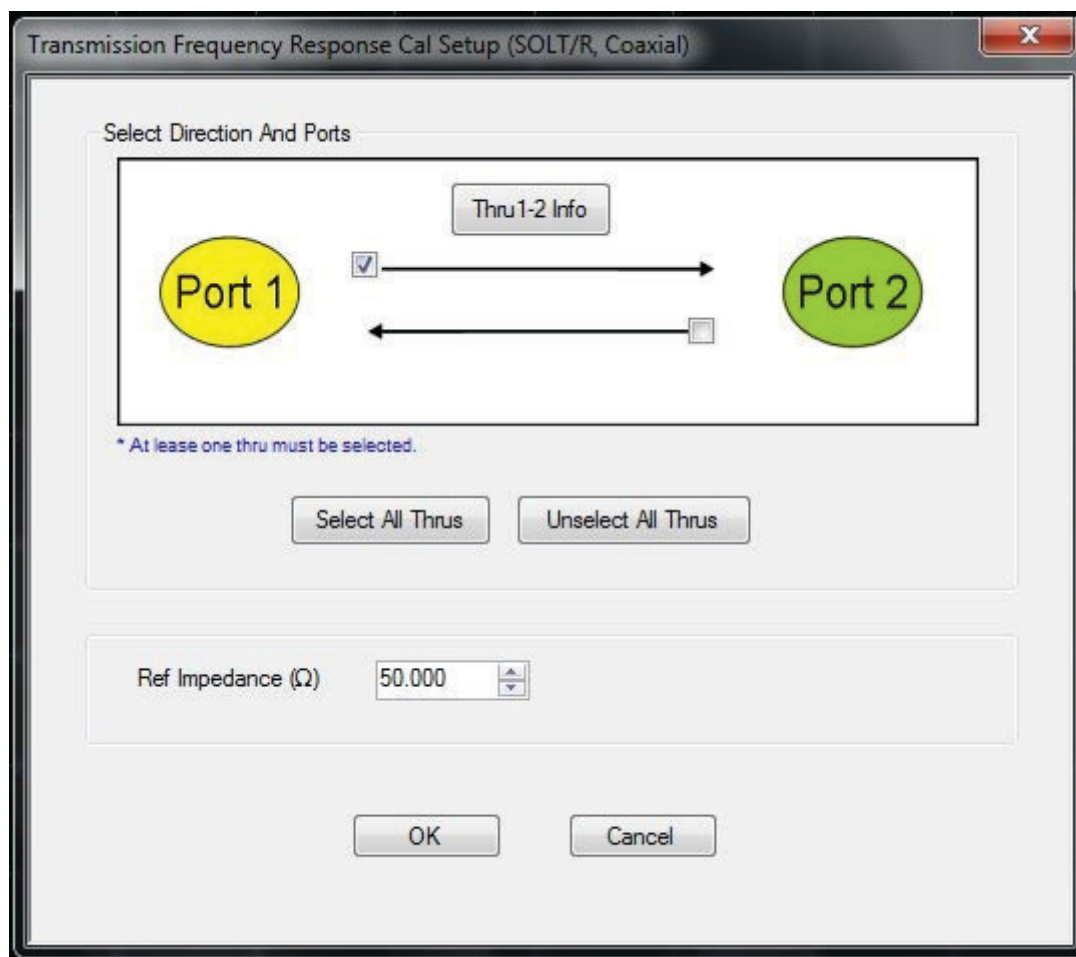

Figure 3-21. TRANSMISSION FREQUENCY RESPONSE CAL SETUP (SOLT/R, Coaxial) Dialog
6. Select Edit Cal Params (see Figure 3-21).